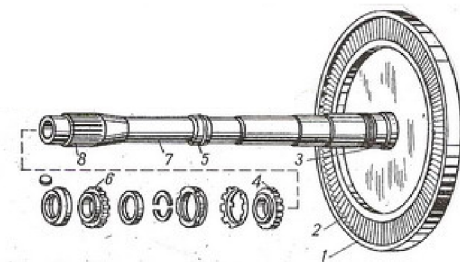

Fig.1
b) name all the components of the device in fig.1?